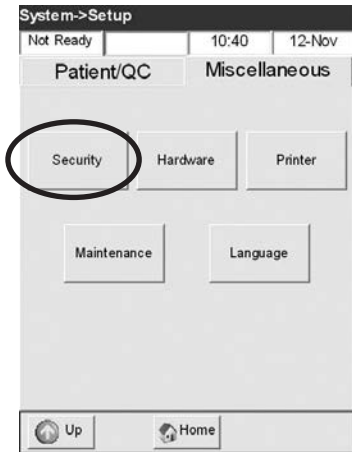

Fig. 3-31 Select Security
- In the **<System Setup>** menu, press the **<Miscellaneous>** tab, and select **<Security>** (Fig. 3-31).